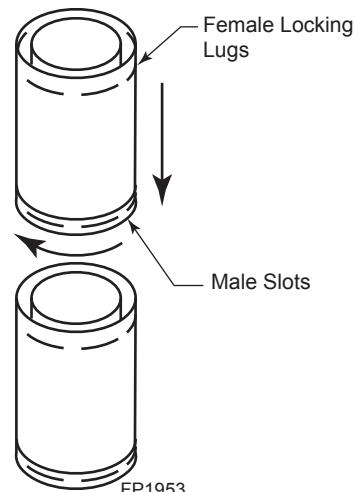

Figure 10 -
Twist-lock Procedure: The female ends of the pipes and fittings have three locking lugs (indentations). These lugs will slide straight into matching slots on the male end of adjacent pipes and fittings. Push the pipe sections together and twist one section clockwise approximately one-quarter turn until the sections are fully locked. *Figure 10*
- Assemble the desired lengths of pipe and elbows necessary to reach from the burner system flue up through the firestop. Be sure pipe and elbow connections are fully twist-locked. *Page 13, Figure 10*